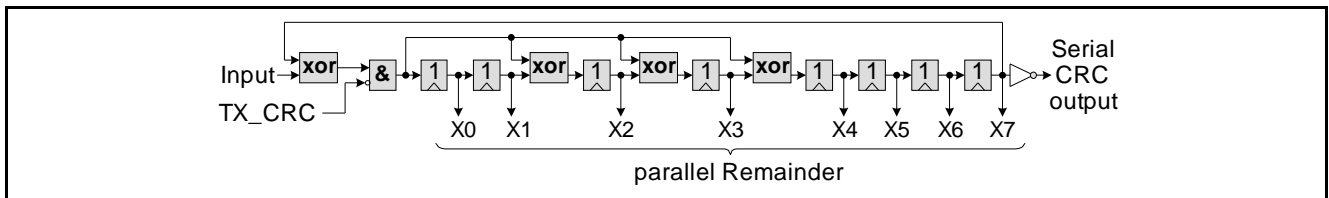

Figure 15 Fast CRC Polynomial Division Circuit
- Generator Polynomial: $X^8+X^4+X^3+X^2+1$, the fast CRC generation circuit, is used for CRC generation. (See Figure 15)
Figure 15 shows the fast CRC Polynomial.